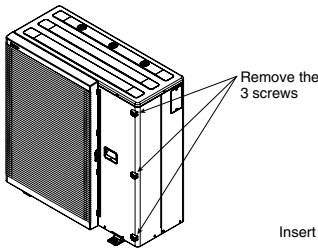

Fig. 6-1
1. Remove the 3 screws fastened to the cabinet front plate. (Fig. 6-1)